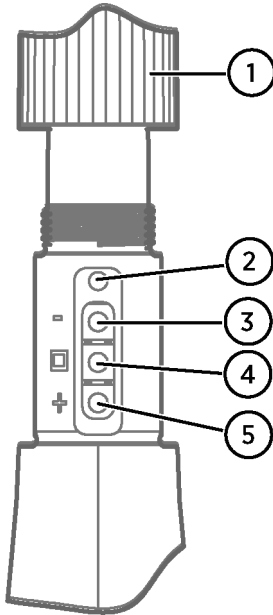

Figure 12 HMP155 adjustment buttons
There are 3 buttons marked -, □, and +. There is also a 2-colored indicator LED. See Figure 12 \(page 67\).
3. Open the protective plug and you can see three buttons marked -, □ and +. There is also a two-colored indicator LED. See Figure 12 \(page 67\).